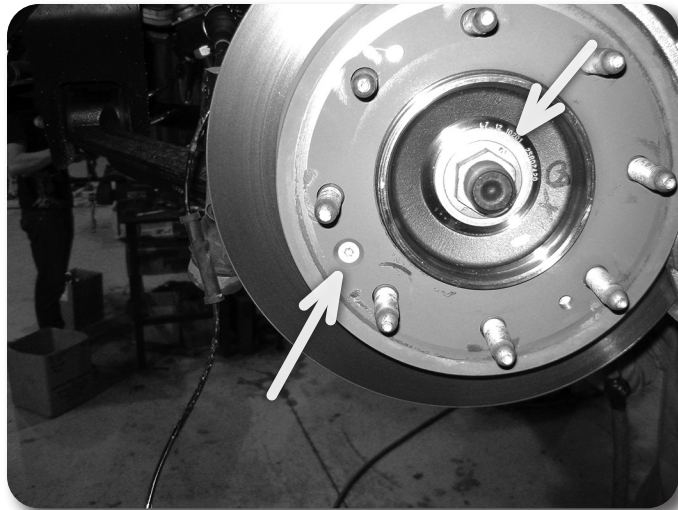

Figure 11
16. Remove the rotor retaining bolt using a T30 torx bit **Figure 11**. Remove the brake rotor and set aside. Save retaining bolt.
17. Remove the CV axle nut and washer **Figure 11**. Save hardware.
19. Remove the upper and lower ball joint nuts **Figure 11**. Reinstall the nuts a couple of turns by hand. Strike the knuckle near the ball joints to release the taper. Remove the nuts and remove the steering knuckle from the vehicle. Save nuts and the o-rings. Take care not to strike the ball joint.